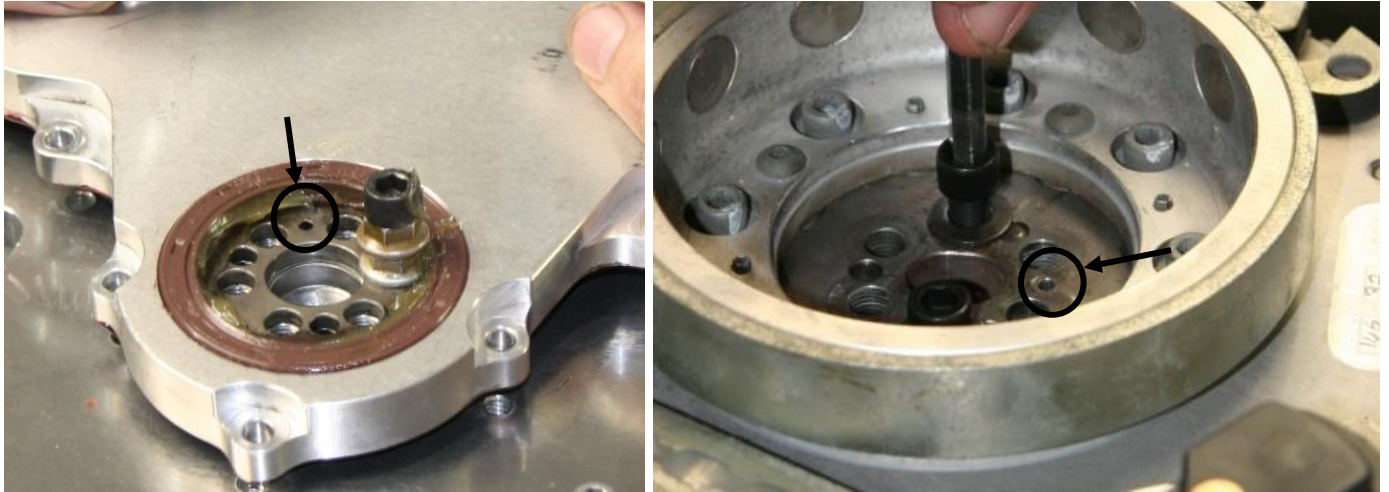

Figure 182 – Flywheel & Crank Timing Marks
- While the engine is still set at 25° before TDC (or as required to set the distributor timing) the flywheel will fit onto the engine with its magnets aligned at the ignition pole positions. For the 2200 engine this means the magnets are pointing to the left and right of the engine. For the 3300 the magnets are at the 1 o'clock, 5 o'clock and 9 o'clock positions. There is also a timing mark (a hole) on the flywheel which aligns to a corresponding hole in the crankshaft gear. Figure 182 refers.